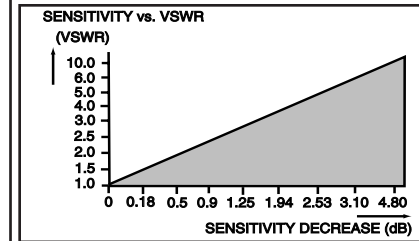

Figure 3: Sensitivity vs. VSWR
- For BER of 10⁻⁵ at 4800 baud. Sensitivity is affected by antenna SWR. See Figure 3.